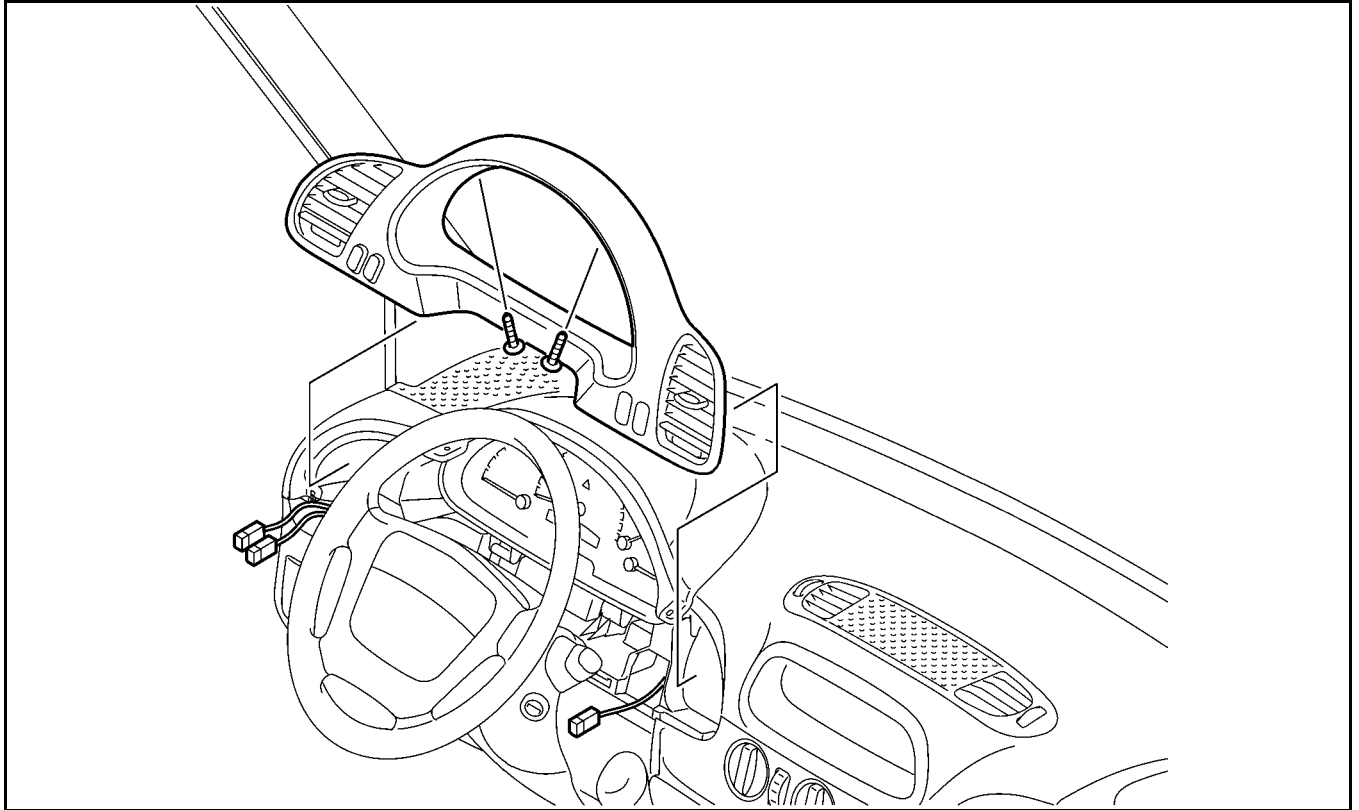

Figure 10 Removal of Instrument Cluster Bezel
10. Remove the instrument cluster bezel (Figure 10). Unscrew both screws and separate the bezel using a trim stick C-4755 or equivalent. Disconnect the electrical connectors and remove bezel.